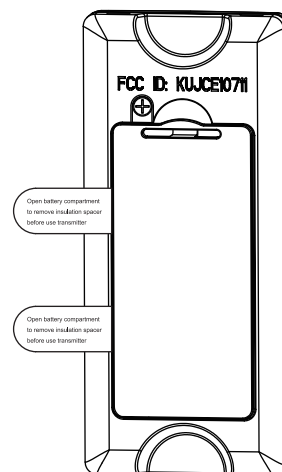

Figure 3
- ☐ 3. To make fan operational, remove battery insulator pull tab before use transmitter. Then, follow the remote code setting process. If not used for long periods of time, remove battery to prevent damage to transmitter. Store the remote away from excessive heat or humidity. (Figure 3)